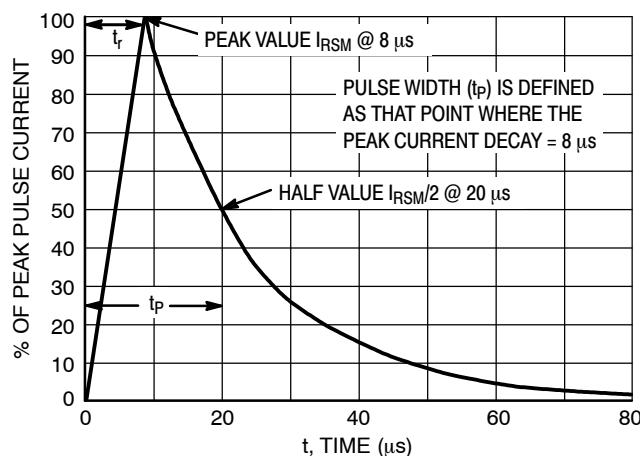

Figure 5. 8 X 20 μs Pulse Waveform
4. Surge current waveform per Figure 5.